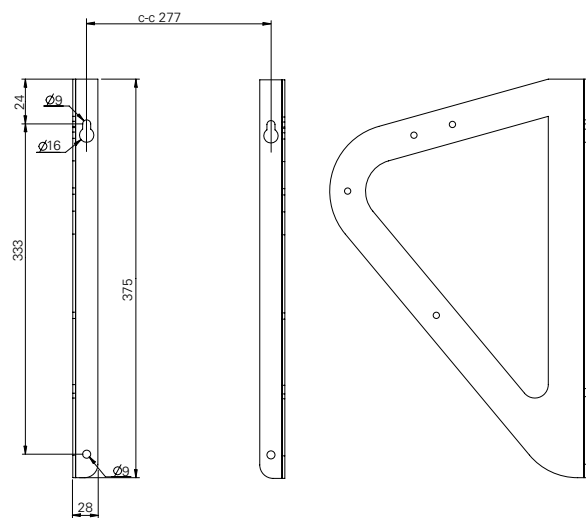

Fig. 2
1. Drill four holes in the wall with a c-c distance according to fig. 2 on page 2.